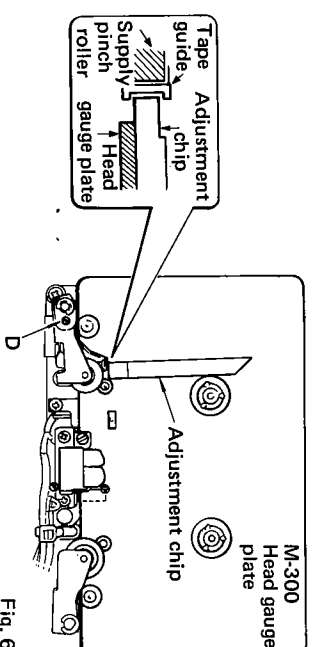

Fig. 6
- 2) Set the unit in the PLAY state. With the adjustment chip applied to the tape guide of the supply pinch roller, check the tape guide to chip clearance. Make an adjustment with the adjusting screw D in the below Fig. 6 so that the upper and lower clearances become equal.